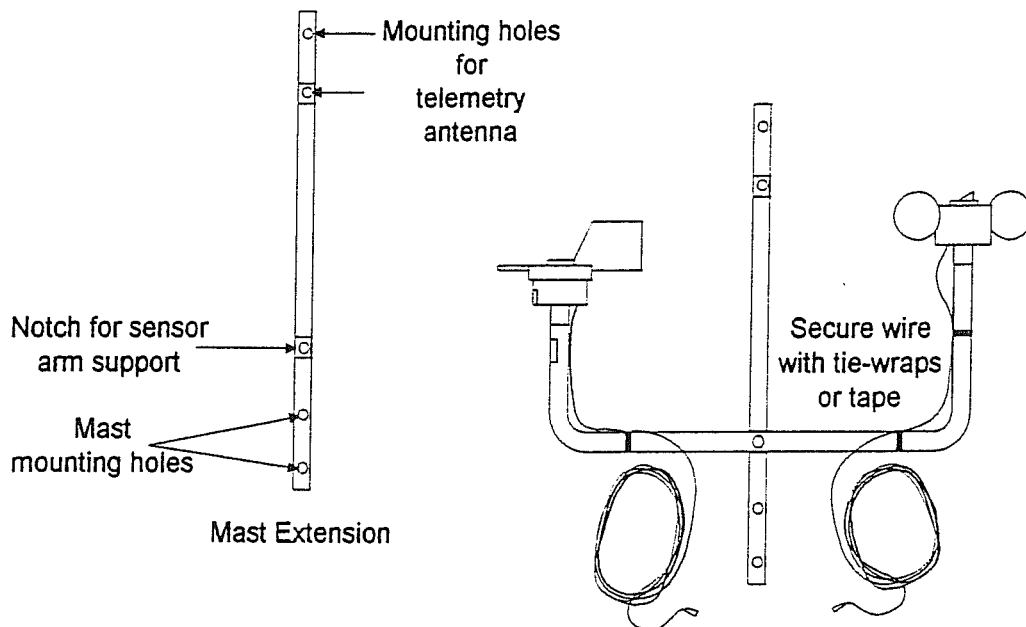

Figure 4-6
4. Tape the cables as shown in Figure 4-6.